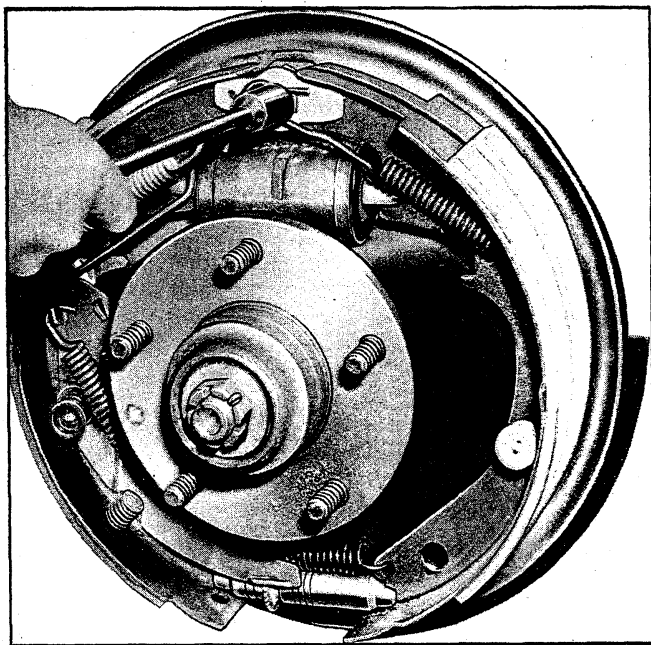

Fig. 27—Unhooking Pull Back Spring
4. Unhook brake shoe pull back springs from anchor pin and link end, using Tool J-8049 (fig. 27).